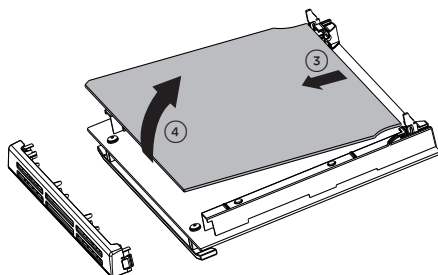

Fig. 4.13
- Gently lift and pull out the inner pane of glass by releasing it from the bottom retainers. Do not angle the pane too much as you may damage the glass (fig. 4.13).